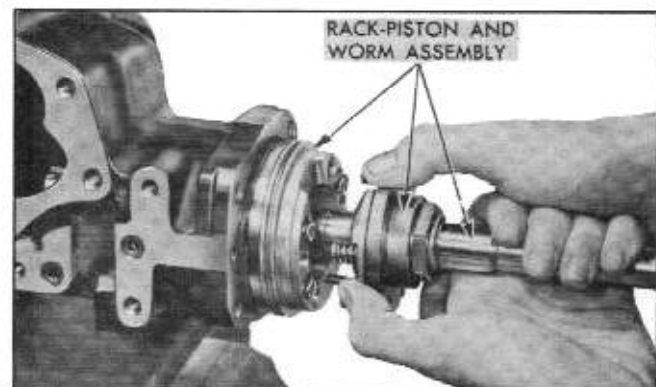

Fig. 9-34 Removing Rack-Piston and Worm Assembly
1. Pull rack-piston and worm assembly out of housing (Fig. 9-34).